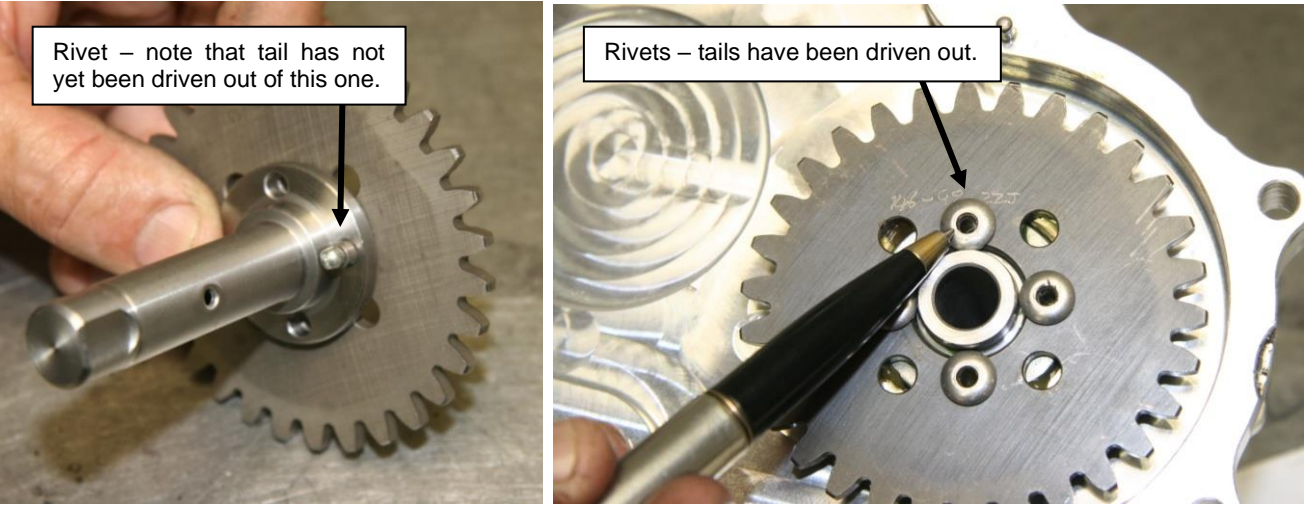

Figure 156 – Assembling Distributor Gear to shaft
- If the distributor shaft has been replaced it will be necessary to rivet the drive gear to the new shaft as shown in Figure 156. 3/16" stainless steel (Monel) blind rivets must be used. Ensure that the heads of the rivet do not get caught on the edge of the shaft and that the tails are not so long that they project past the shoulder of the shaft. Also ensure that the remainder of the rivet tails are driven out of the rivet – otherwise they can work loose in service and damage the engine.